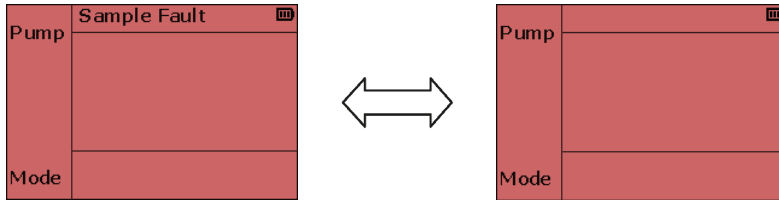

Figure 55: Sample Fault
- Monitor functionality is disabled and 'Sample fault' flashes on screen (as shown in Figure 55: Sample Fault).